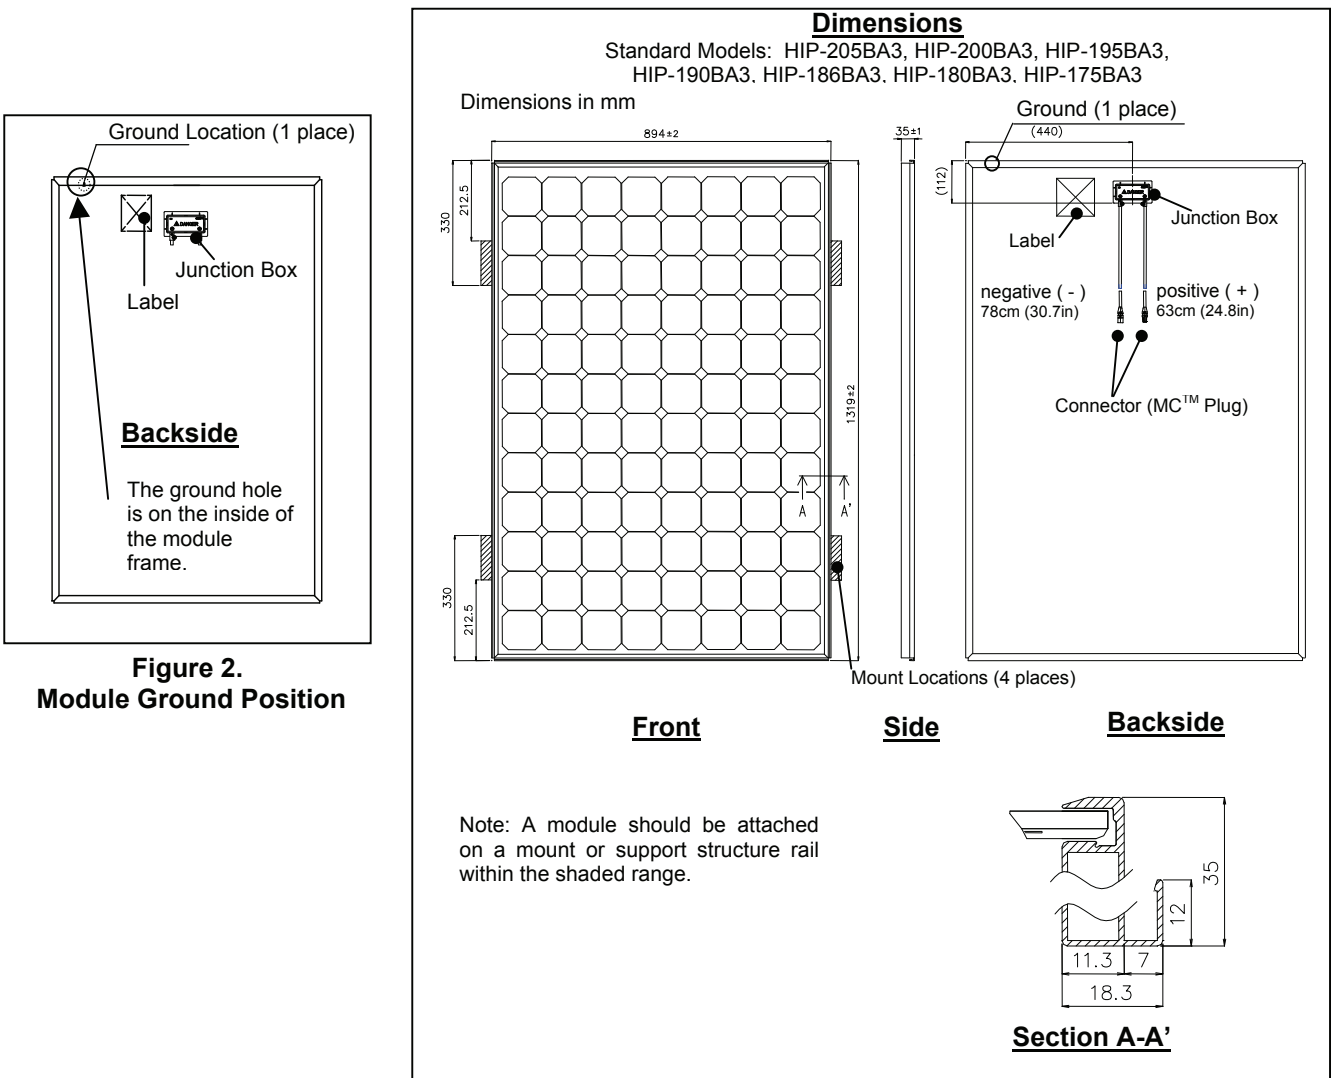

Figure 3.1 Standard Model Dimensions
- The modules should be mounted at the four (4) quarter points by the means shown in Figures 3.1 and 3.2.